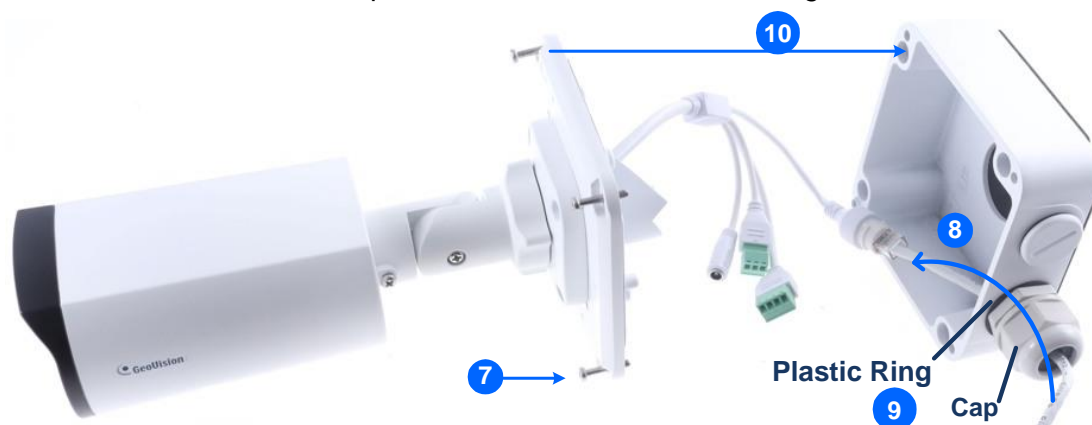

Figure 1-63
- Reattach the box cover to the power box, as shown in No. 7, *Figure 1-63*.
- Thread the Ethernet cable through the PG21 conduit connector and the power box as shown in No 8, *Figure 1-63*. Then connect the cable to the camera. To waterproof the cable, see *1.8 Waterproofing the Cable*.
- Rotate the plastic ring to secure the conduit connector to the power box. Secure in the cap, as shown in No 9, *Figure 1-63*.
- Secure the box cover to the power box, as shown in No 10, *Figure 1-63*.
7. Thread the Ethernet cable through the center hole (proceed to Step 9) or through the PG21 conduit connector and the power box as shown in No 8, *Figure 1-63* (proceed to Step 8).
8. Rotate the plastic ring to secure the conduit connector to the power box. Secure in the cap, as shown in No 9, *Figure 1-63*.